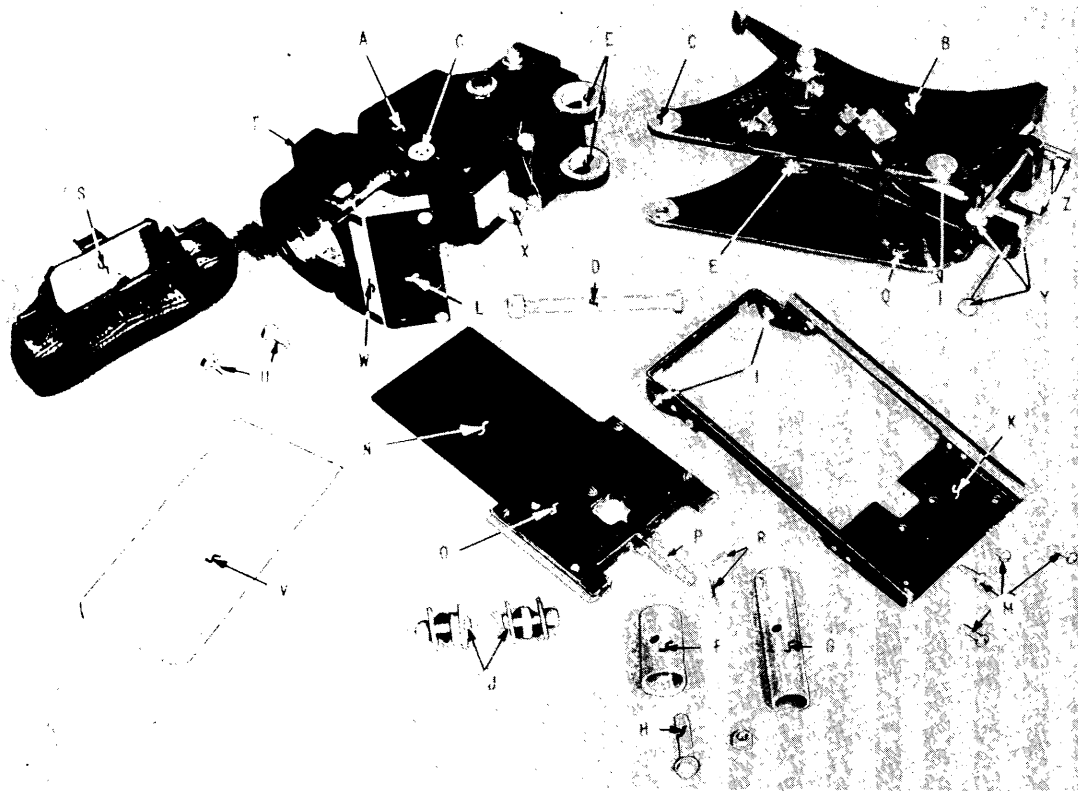

Figure 85 - N-3A
b. To Assemble the Yoke and Gun Sight. - To assemble the yoke and gun sight, first install the three adjusting bolts "Y" and the three adjustment screws "Z" in the nut plates on the yoke as illustrated in figure 85.
(1) Install the yoke "B" on the sight assembly "A" with the bolt and nut assembly "D" installed in holes "C." (See figure 85.) Do not tighten the bolt so that the yoke will be free to rotate.
(2) Swing the yoke into place on the sight assembly so that the large holes "E" in the yoke align with the large holes "E" in the forward section of the sight assembly. Install the spacer "F" between the